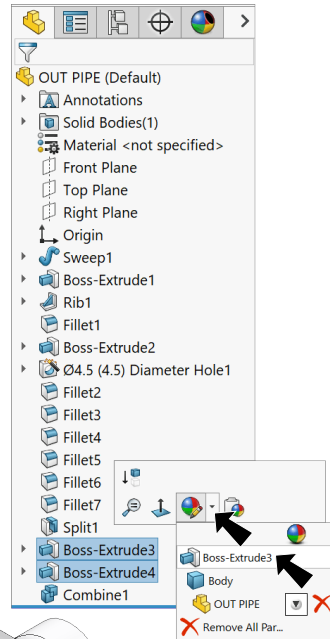

Fig. 84
Step 2. **Ctrl** click **Boss-Extrude3** and **Boss-Extrude4** (text) in the Feature Manager to select both. Click **Appearance Callout**  on the context toolbar and click **Boss-Extrude3** , **Fig. 84**.